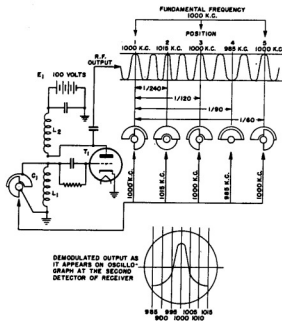

Figure 2.5 - Frequency Modulation
a. An illustration of the generation of frequency is shown in Figure 2.5. The main characteristic of a frequency modulated signal is that the frequency is constantly changing while the output voltage remains constant. Starting at the fundamental frequency, the frequency gradually increases to its maximum, decreases through the fundamental to its minimum and then returns to the fundamental frequency, completing the cycle. The maximum and minimum frequencies are determined by the bandwidth of the f-m oscillator. In the illustrated case, the bandwidth is 15 kc either side of the fundamental 1000 kc. In the Model 288X the bandwidth may be either 0-30 kc, 0-150 kc or 0-450 kc. The rate at which the cycle is completed may also be variable. In the Model 288X, the rate is either 60 or 400 cycles.
of the circuit given in Figure 2.5. The control of the bandwidth of frequency modulation is the potentiometer R26, KC SWEEP. In the case of the narrow band f-m oscillator (1 mc), the sweep may be varied from 0-30 kc, utilizing 60 cycle modulating frequency. When using the wide band f-m oscillator (50 mc) the sweep may be varied from 0-450 kc, utilizing 400 cycle modulating frequency. Since the output of the main variable oscillator is fed to the output network FM 0-10 KC AF through the pentode section of the type 6K8 tube, V3, it is possible to amplitude modulate this r-f carrier by means of an external source of signal fed in at the EXT AMP binding post which is connected to a grid of the 6K8.